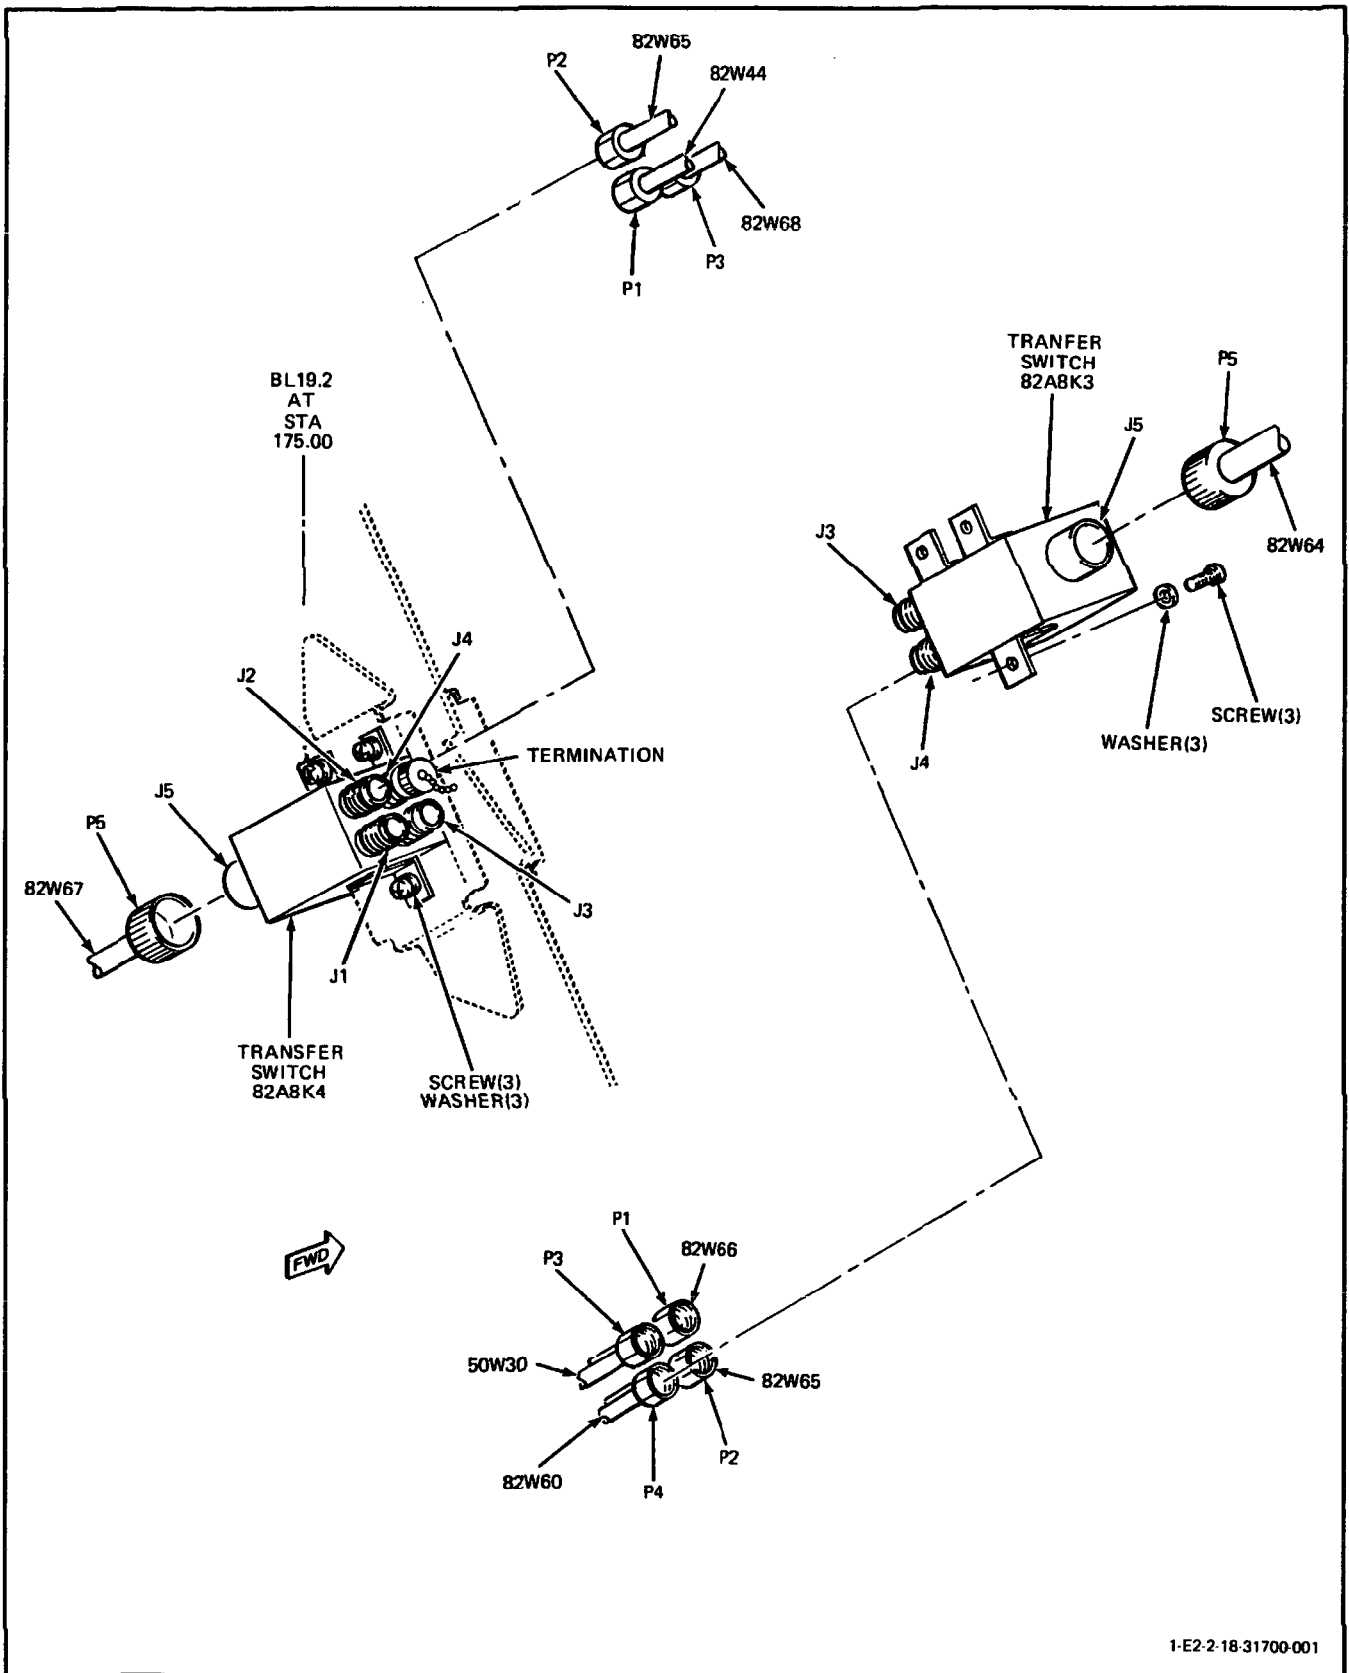

Figure 1. Removal and Installation of Anti-Jam Coaxial Transfer Switches GS839JF1
**3. REMOVAL.** (Figure 1.)
#### 4. INSTALLATION. (Figure 1.)